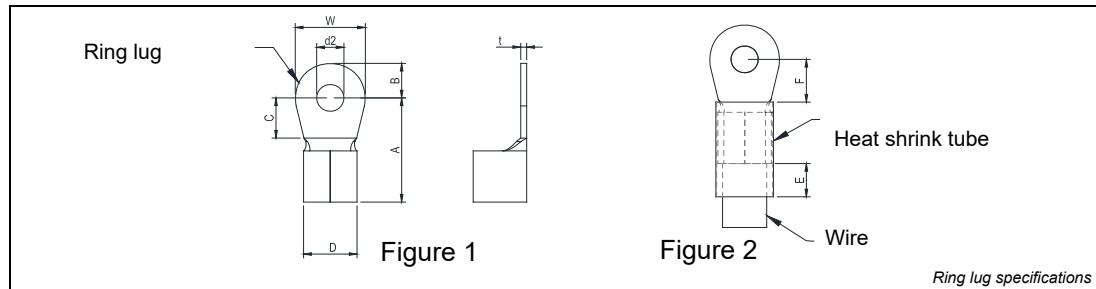

Fig. 6-5: Ring lug and insulated heat shrink tubing (UL compliant) specifications
- Use the specified ring lug for main circuit terminal wiring. See "Figure 1" and "Figure 2" in fig. 6-5 for ring lug specifications. For other types of wiring use the wires that comply with the local regulations.
- After crimping the wire to the ring lug (must be UL approved), UL and CSA approved recognized component (YDPU2), install heat shrink tubing rated at a minimum of 600 V AC insulation over the live part. Refer to "Figure 2" in fig. 6-5 below.
Tab. 6-2: Terminal specification (terminal in Fig. 6-5)